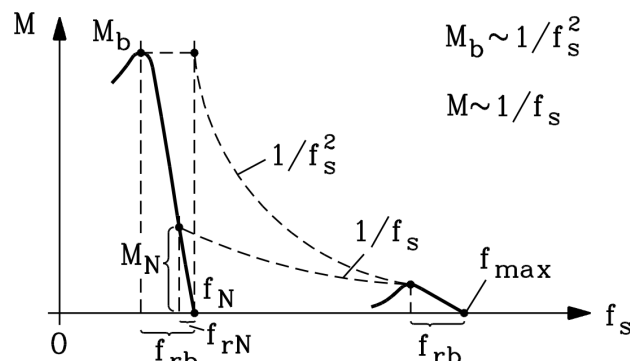

Fig. 2.11-1: Decrease of torque at constant power and decrease of break down torque due to flux weakening
5) Constant power operation (Fig. 2.11-1):